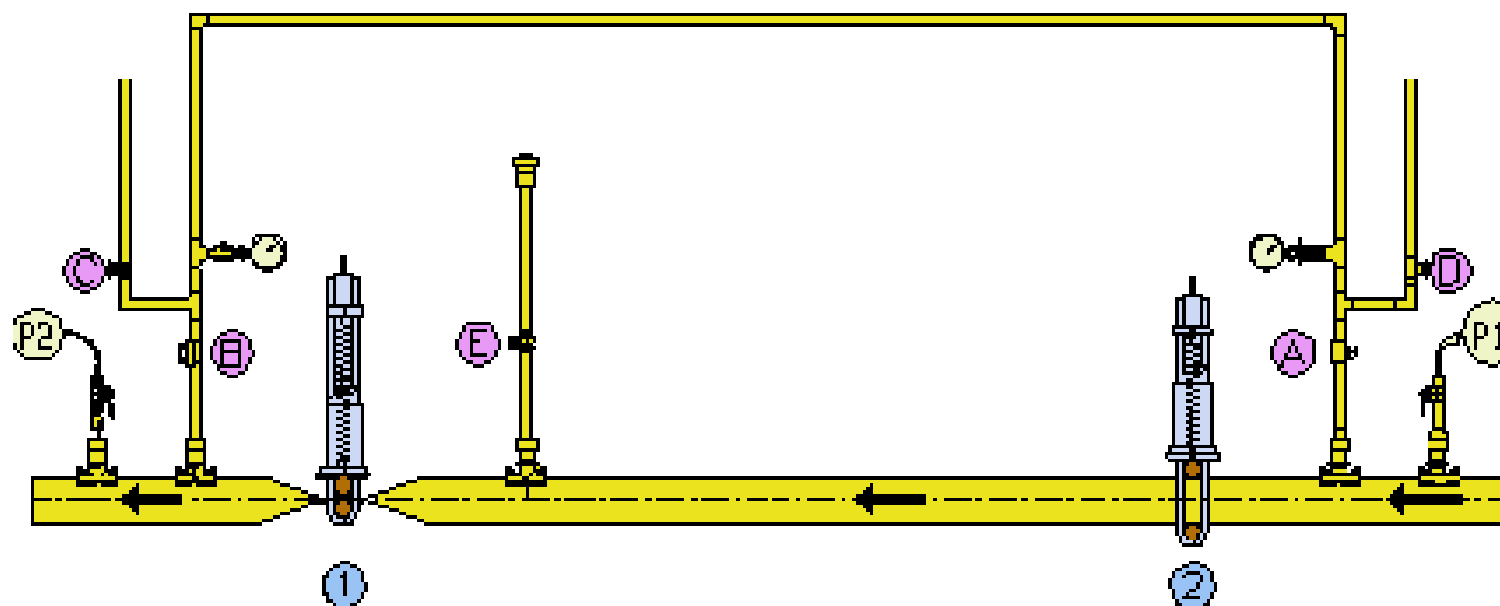

Figure 46- Squeeze-Off (1)
3. Slowly apply downstream squeeze-off unit 1 until it reaches its stop, see Figure 46.